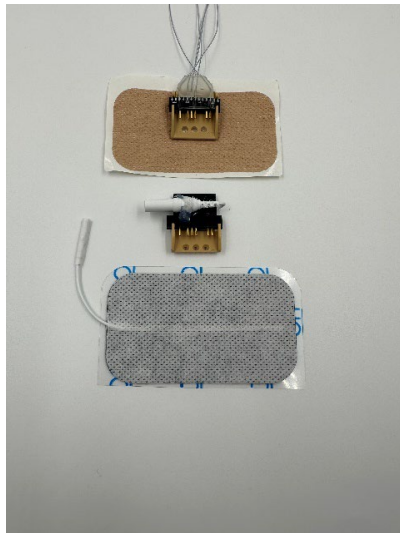
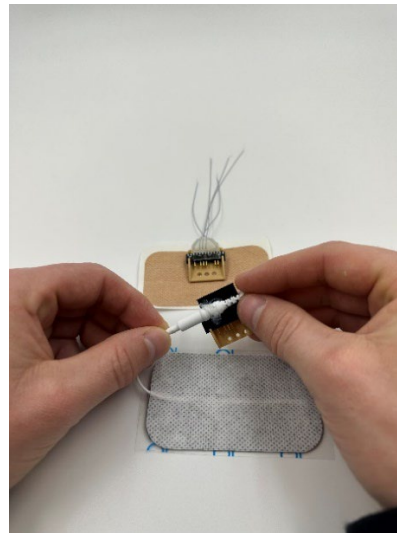

Figure 30.
Figure 31.
3. Remove one surface anode (Figure 30) from the packet. Connect the white cable to the white cable (Figure 31).